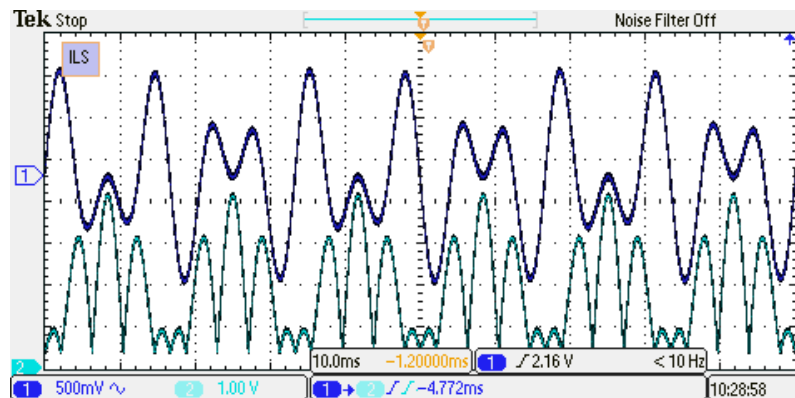

Figure 5 – CSB/SBO Synchronization Waveform
- Check for the synchronization between these two signals (see Figure 5)